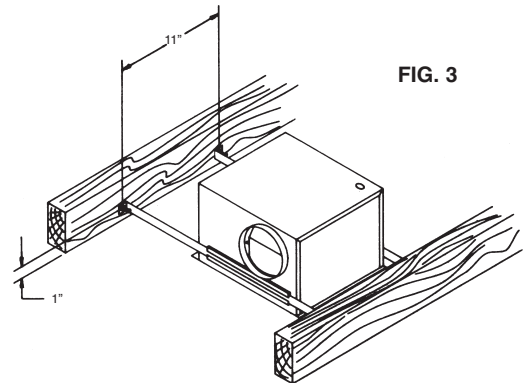

FIG. 3
5. Insert (4) mounting brackets with angels pointing away from housing. In approximate location between ceiling joists where housing will be located, drive (2) nails (4D or 6D) 1" from the bottom of the joist, 11" apart leaving 1/4" of nail projecting. Position one set of mounting brackets over nails and drop into place. Extend the remaining mounting brackets to the adjacent joist and repeat nailing procedure. Finish driving nails and adjust housing between ceiling joist. See Fig.3.